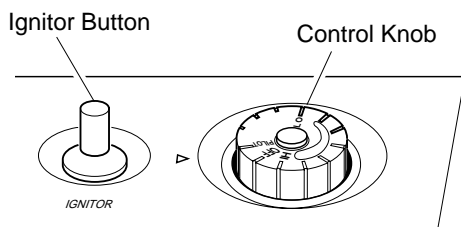

Figure 23 - Control Knob In The OFF Position
4. Wait five (5) minutes to clear out any gas. Then smell for gas, including near the floor. If you smell gas, STOP! Follow "B" in the safety information. If you don't smell gas, go to the next step.
5. Turn control knob counterclockwise to PILOT position. Press in control knob for five (5) seconds (see Figure 23).